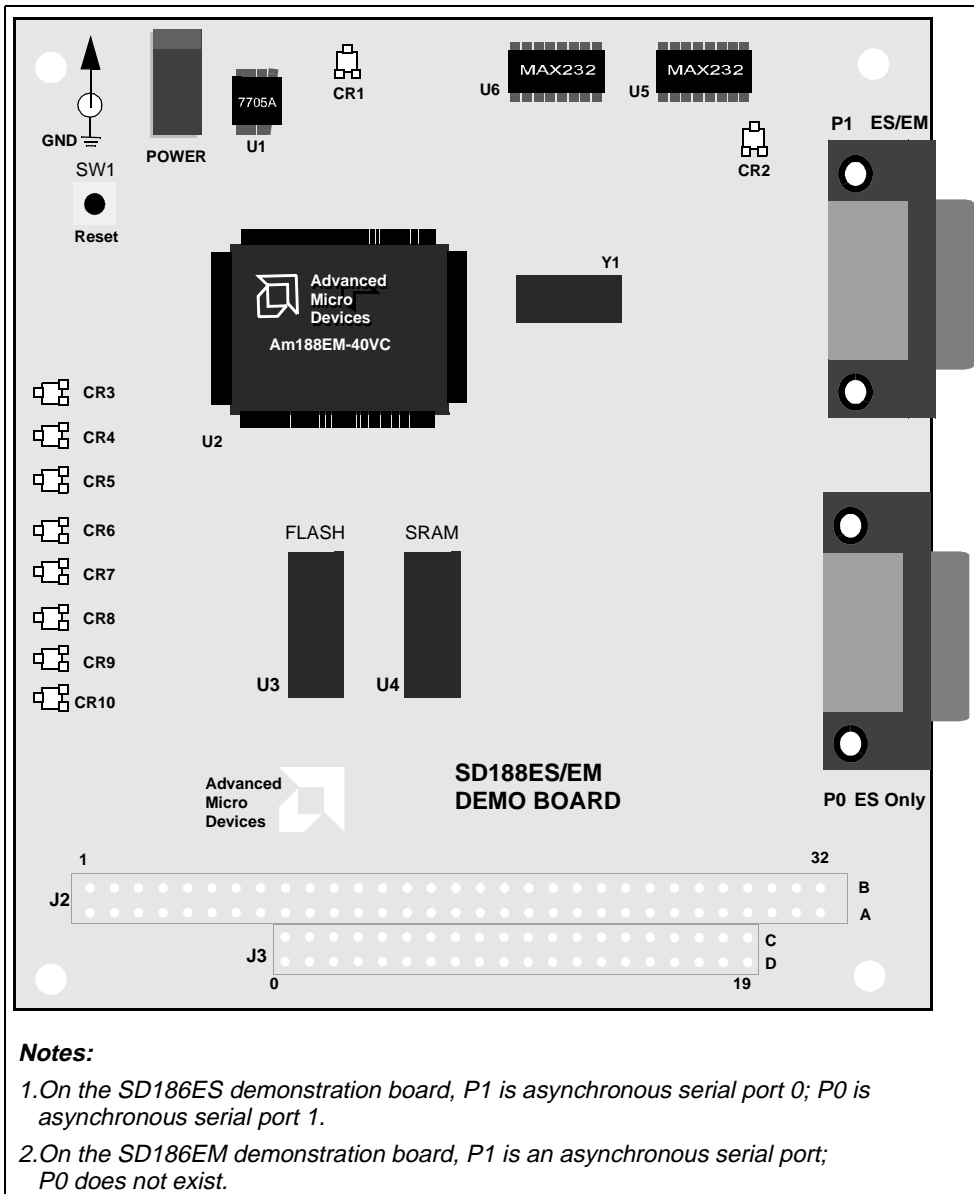

Figure 2-1. SD188ES/SD188EM Demonstration Board Layout
6. Reset the board by depressing and releasing the RESET switch (see location in Figure 2-1 on page 2-3). The LEDs on the board (CR3-CR10) will again flash in an oscillating pattern for three seconds, as they did upon power up.
The design of the SD188ES/SD188EM demonstration board emphasizes ease of use and small size. Refer to Figure 2-1 on page 2-3 for board layout and component placement.